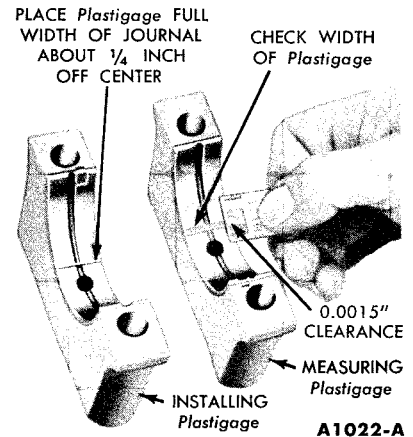

FIG. 57—Installing and Measuring Plastigage—Engine Installed
10. Place a piece of Plastigage on the bearing surface the full width of the bearing cap and about 1/4 inch off center (Fig. 57).